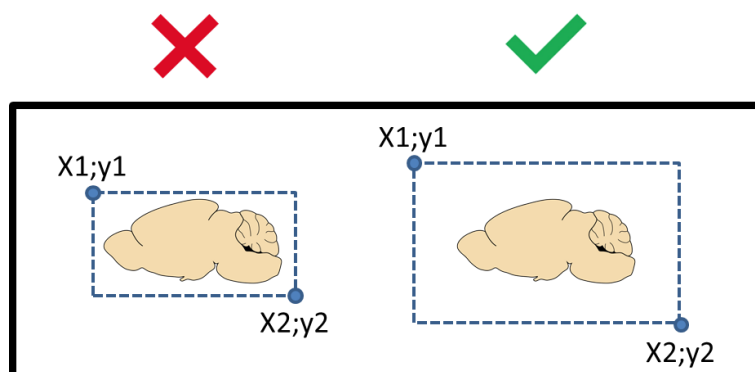

Figure 2 Schematic representation on how to properly select the spray area on the SunCollect
- 10) Select the region to spray on with “Load format 1” and a preconfigured existing format of the SunCollect slide adapter or by entering x1;y1 and x2;y2 coordinates while keeping a 0.5cm margin (Figure 2) in the “Format” menu.